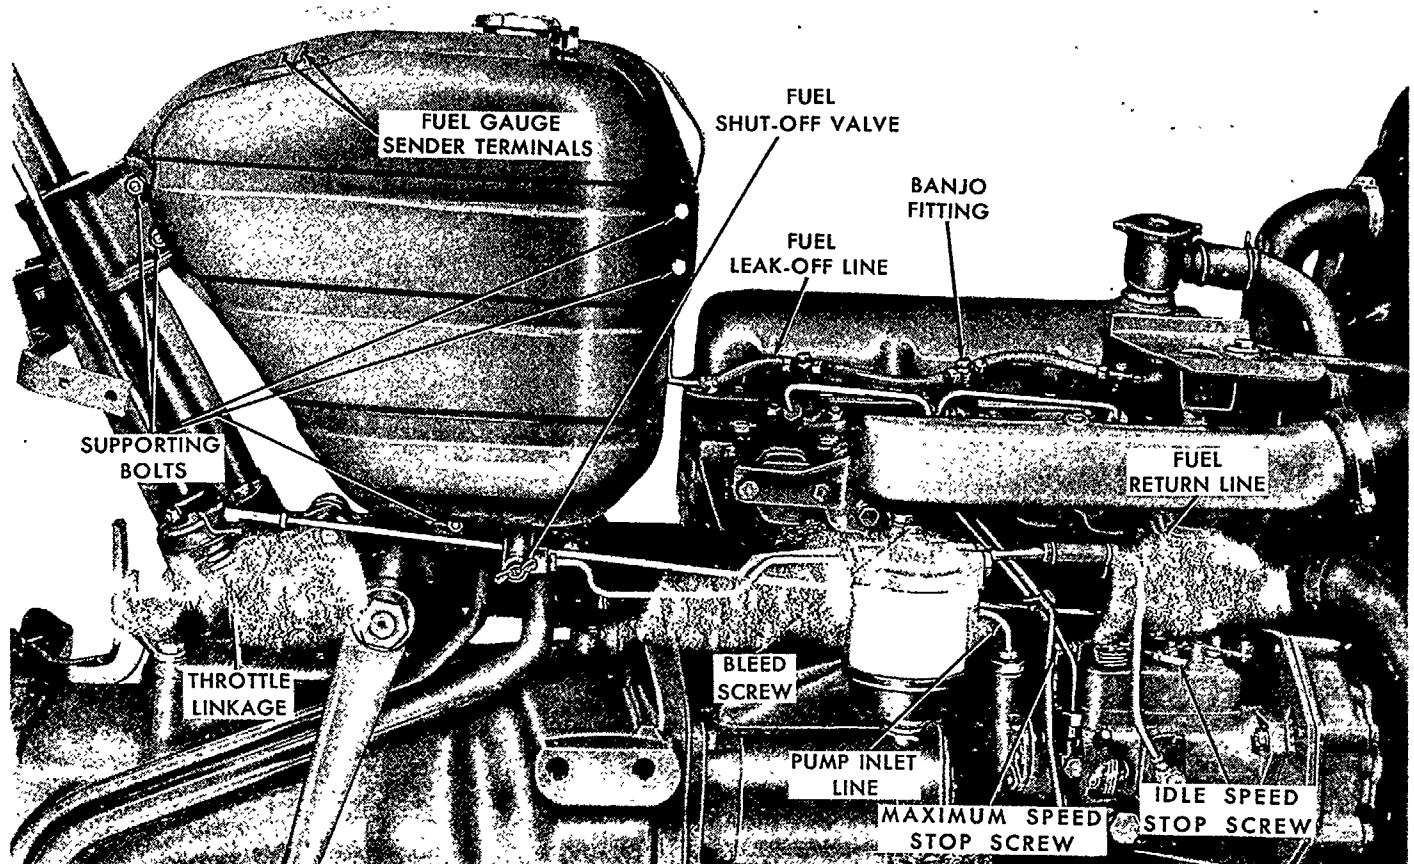

Figure 18
The fuel tank, Figure 18, is located to the rear and above the engine. The tank has a vented cap and the filler neck contains an injector leak-off line connector. The fuel tank outlet is located in the bottom right front corner of the tank. The fuel shut-off valve is an integral part of the outlet fitting. In the top of the fuel shut-off valve is a nylon screen filter.
The Dexta 2000, Super Dexta 3000, and Major 4000 Tractors use the distributor-type injection pump, Figure 18. The pump is mounted to the rear of the engine front cover plate and is driven by the pump timing gear. There is only one pumping element, and this is provided with a distributor or means of connecting the pump delivery to each of the injectors in proper order.
2. Disconnect the throttle linkage from the injection pump. Loosen the lock nut and adjust the low idle speed stop screw, Figure 18, on the injection pump, so that the idling speed is 600-650 rpm. Secure the screw in position with the lock nut.
3. Remove the bleed screws, Figure 18, from the top of the fuel filters. (Dexta 2000 Tractors have only one fuel filter.) Allow the fuel to flow until it is free of air bubbles. Install and tighten the bleed screws.
6. Disconnect the throttle linkage and remove the nut, washer, spring, and friction disc plate from the throttle control lever. See Figure 18.
9. Disconnect the two fuel gauge sender wires, Figure 18.